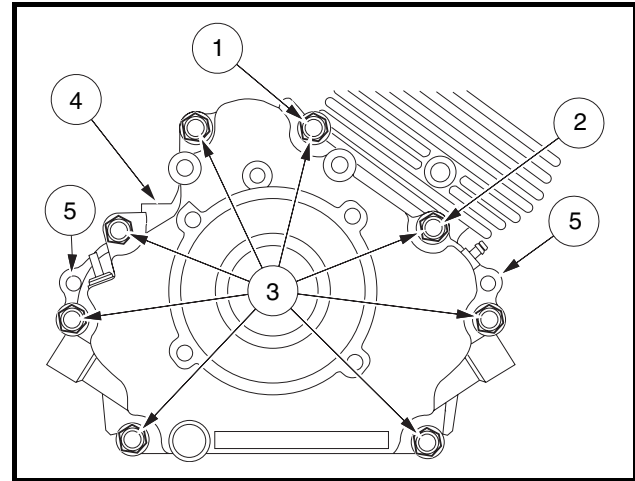

Figure 13-3 Crankcase Cover
2. Remove nuts and clamps at two-ended bolts (1 and 2) (**Figure 13-3, Page 13-4**).
3. Remove eight bolts (3) and remove the crankcase cover (4). **See following NOTE.**
NOTE: If the crankcase cover sticks, tap lightly with a plastic mallet on alternate sides near the dowel pins (5) (Figure 13-3, Page 13-4).